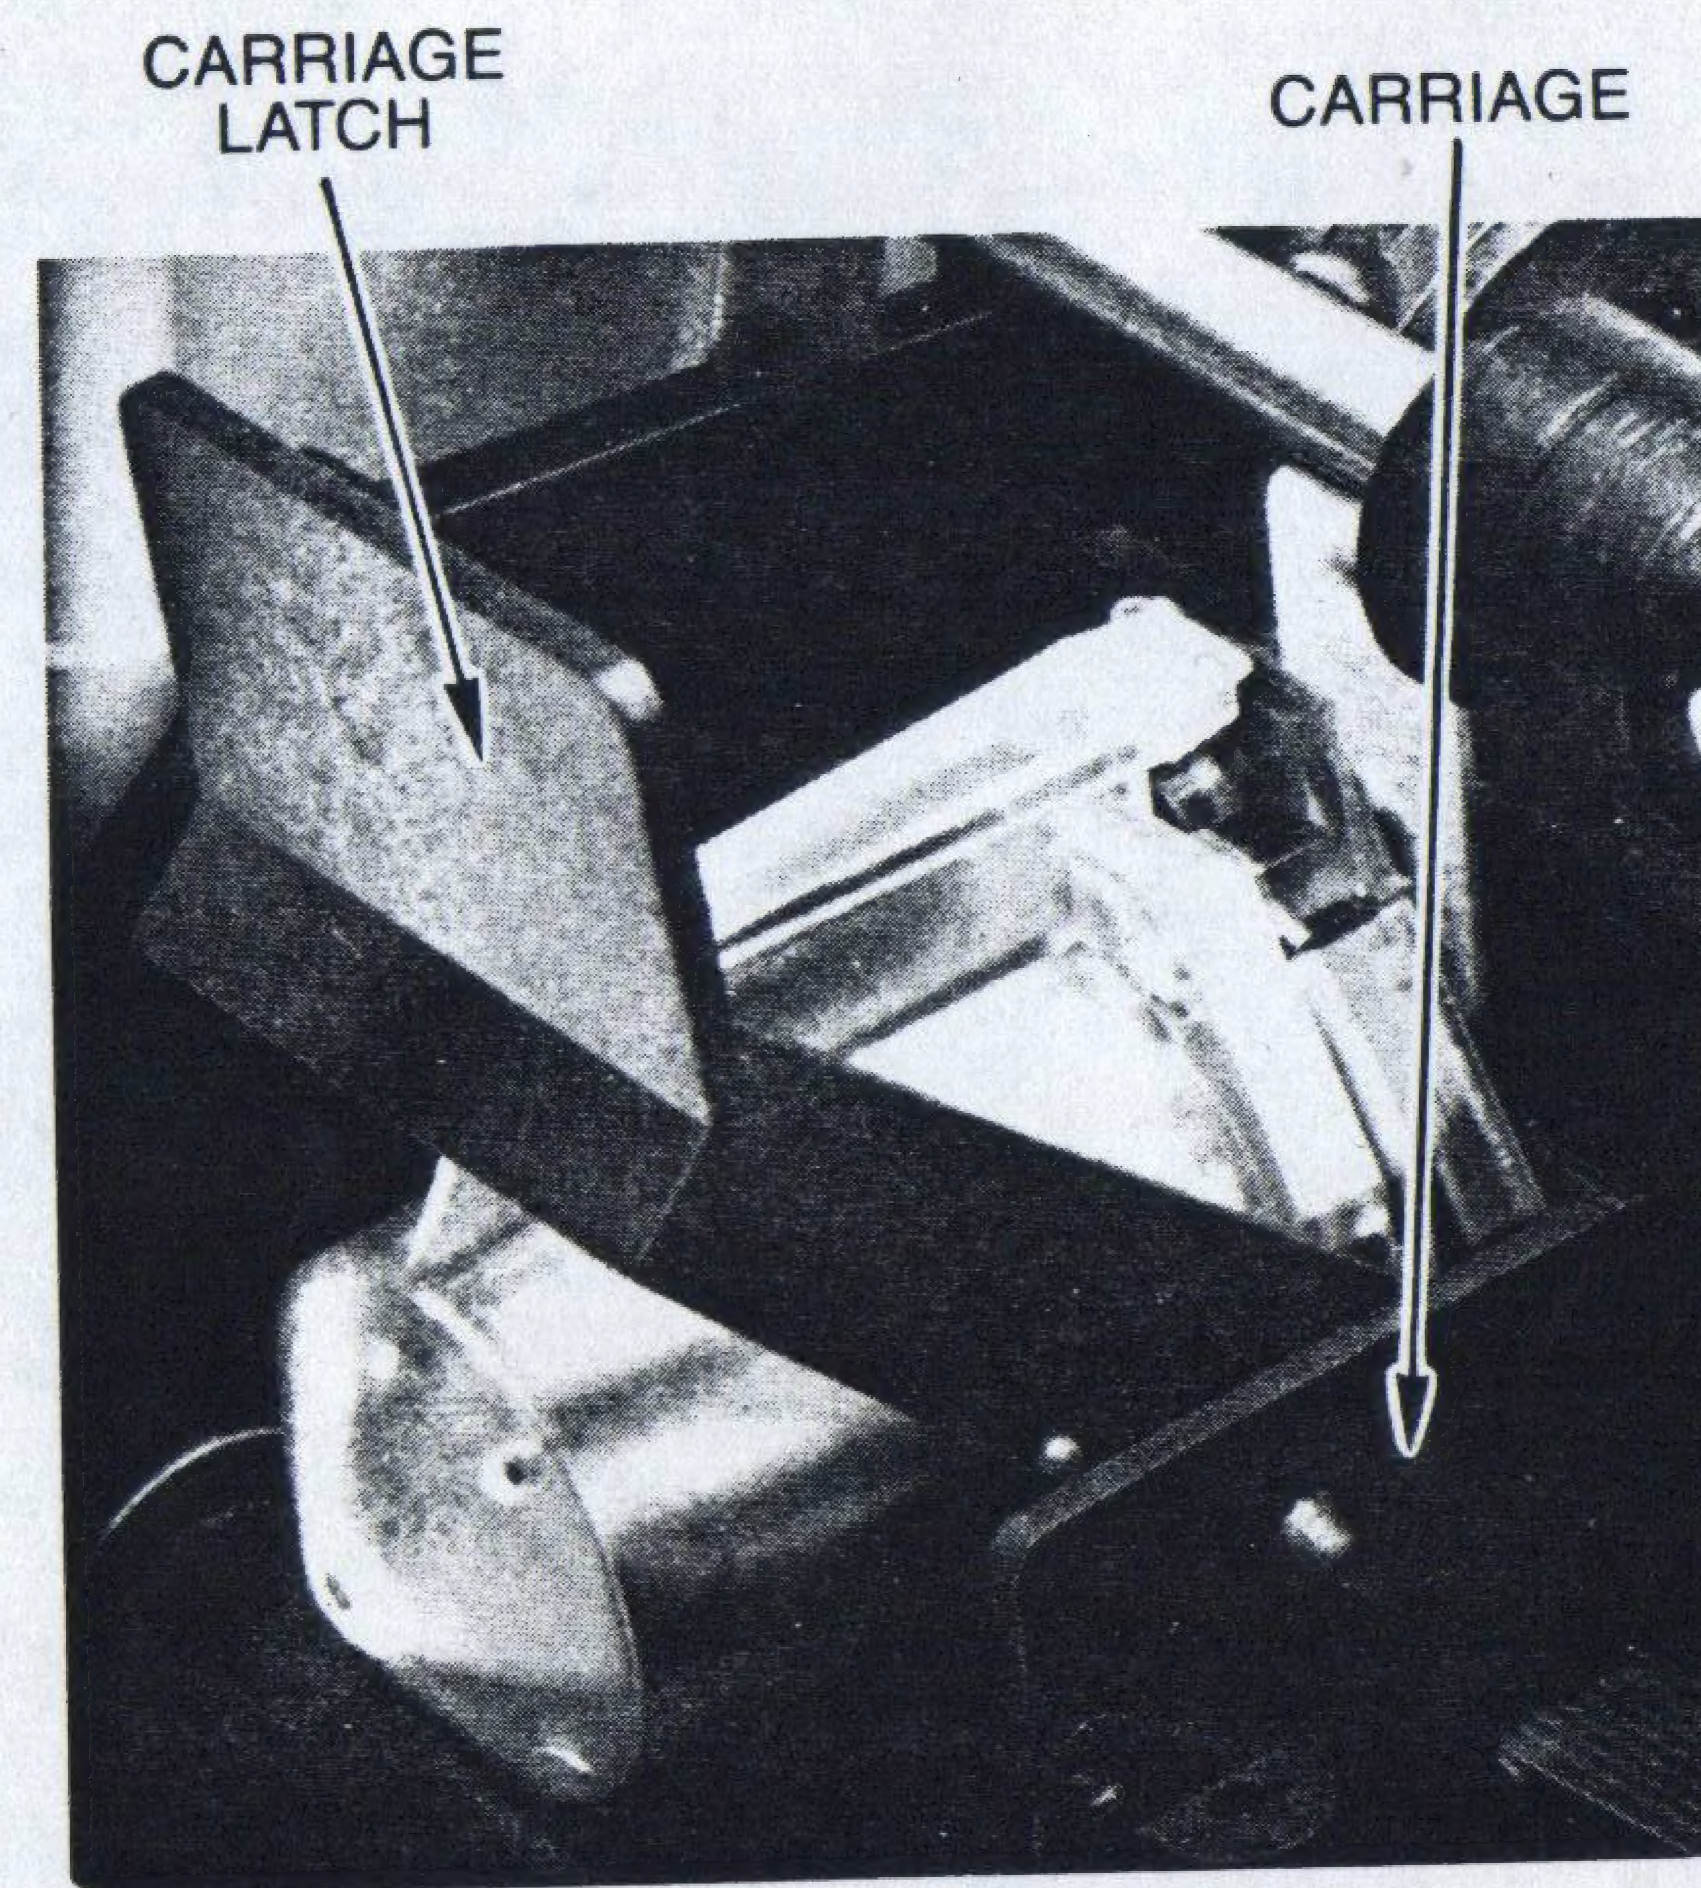

Figure 1-5 Print Head Cartridge Loaded
- Close the carriage latch by lifting it up. Make sure that the carriage latch is fully closed as shown in Figure 1-5.